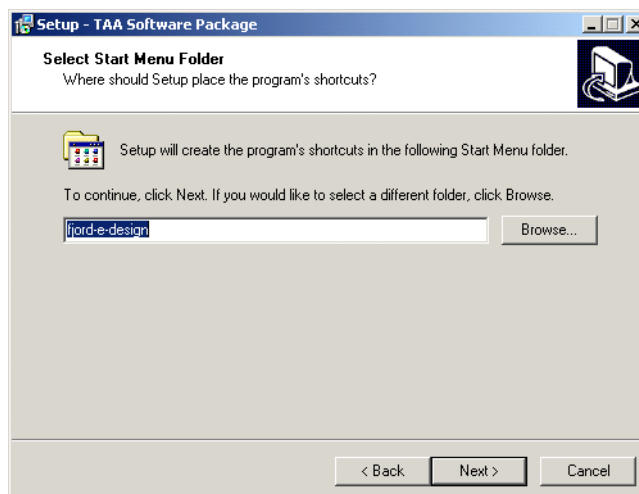

Figure 6 Selecting the start menu folder for the application
- 10 Click the **Next** button to proceed to the Select Start Menu Folder window as shown in Figure 6. This window proposes a name for the application group in the Start > Programs folder.